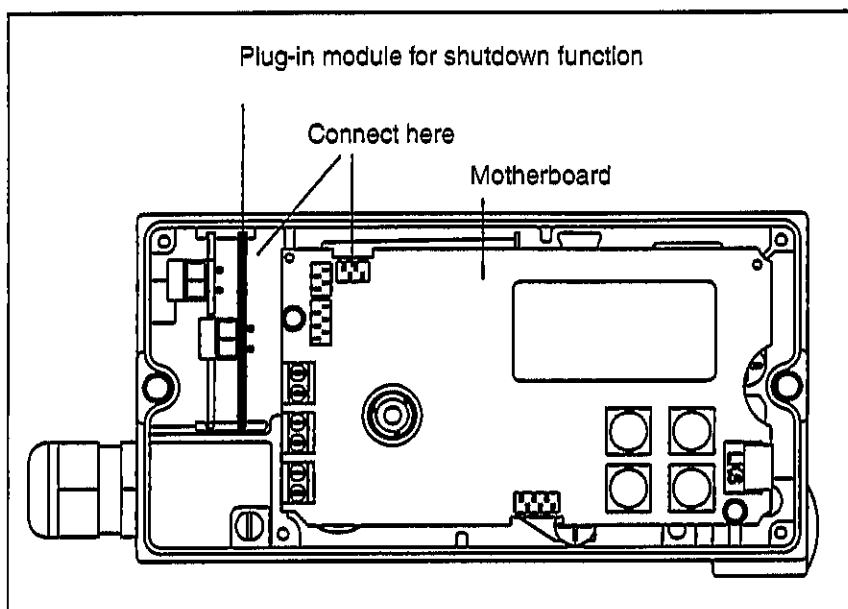

Fig. 29 Installing plug-in module for shutdown function
- Insert the plug-in module for the shutdown function into the right-hand slot into the case (see Fig. 29); ensure that the board engages into the case guides and that the flat cable with the connector is on the right-hand side.
- Disconnect the I/P module cable from the motherboard and pass it under the motherboard such that it ends up to the right of the shutdown module. Then plug the shutdown module connector into the free socket on the motherboard (see Fig. 29).
- Plug the I/P module connector onto the shutdown module as seen in Fig. 29.